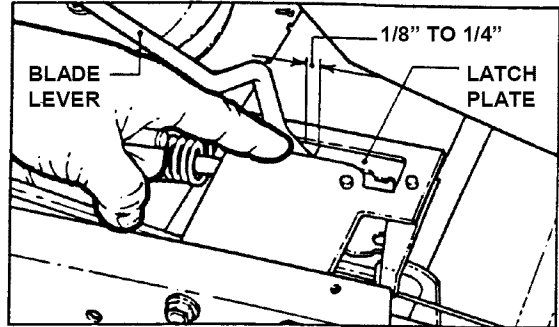

FIGURE 4.5
2. With the blade engagement lever disengaged, hold the blade pedals down and measure the distance between the front of the blade lever and the rear of the latch plate. The dimension should be 1/8" to 1/4" clearance between lever and plate. See Figure 4.5. If the dimension is incorrect go to step 3.